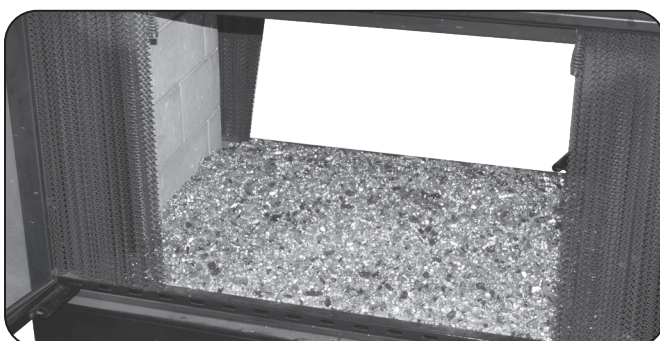

Fig. 8-4
2. Add additional glass / gems around the burner pan as desired (Fig. 8-4).